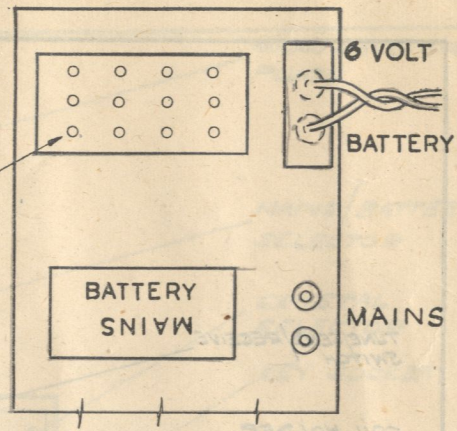

FIG. 10.
- With the "ON-OFF" switch on the Power Pack in the "OFF" position connect the lead provided to the battery terminals—polarity will not affect performance—and plug on to the large pins marked "B" Fig. 10.
- Set the "Battery-Mains" plug to "Battery" Fig. 10.